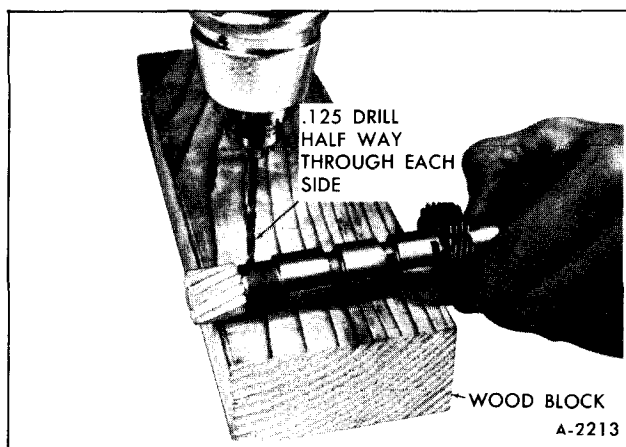

Figure 96—Drilling Governor Gear Shaft
6. Place governor sleeve on a block of wood and with a 1/8" drill, drill half way through each side of gear; drill through existing hole. See Figure 96.